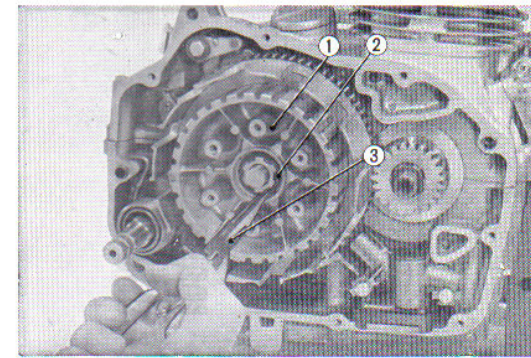

Fig. 3.85 Removing the 25 mm circlip
4. Remove the 29 mm circlip and disassemble the clutch center. (Fig. 3.85)